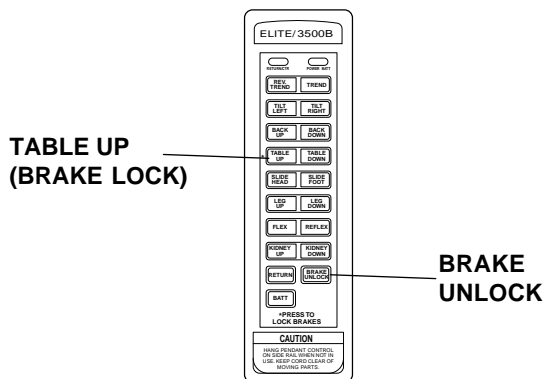

Figure 3-6. Brake System Activation
a. Floor Lock/Brake System. To activate the brakes without affecting table positioning, press the TABLE-UP button. See figure 3-6. The elevation cylinder will not function until the brakes are completely extended.
Press the BRAKE-UNLOCK button on the pendant control to release the four self-leveling brake feet in order to move the table. See figure 3-6. The brake delay circuit automatically retracts the brake system with just one press of the BRAKE-UNLOCK button. It takes approximately 7-8 seconds to totally release the system.